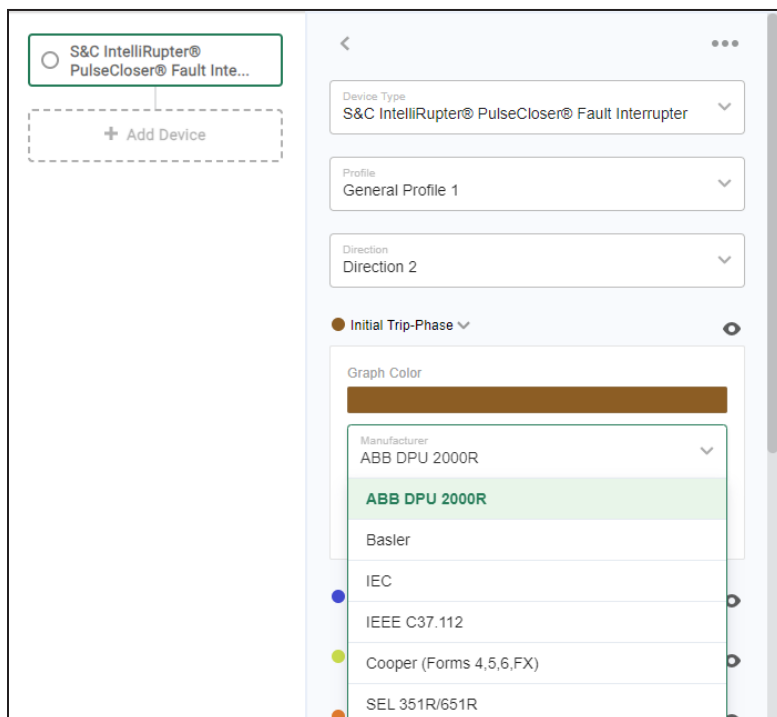

Figure 15. The device selection for an Initial Trip-Phase TCC curve.
STEP 1. Select the device to be emulated for the Initial Trip-Phase curve. See Figure 15.